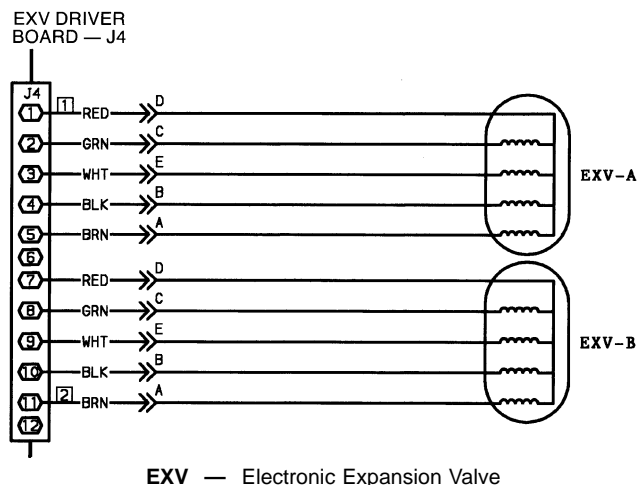

Fig. 13 — EXV Cable Connections to EXV Driver Module, DSIO (EXV)
1. Check EXV driver outputs. Check EXV output signals at appropriate terminals on EXV driver module (see Fig. 13) as follows:
2. Check EXV wiring. Check wiring to electronic expansion valves from terminal strip on EXV driver. See Fig. 13.
3. Check resistance of EXV motor windings. Remove plug at J4 terminal strip and check resistance between common lead (red wire, terminal D) and remaining leads, A, B, C, and E (see Fig. 13). Resistance should be 25 ohms \pm 2 ohms.